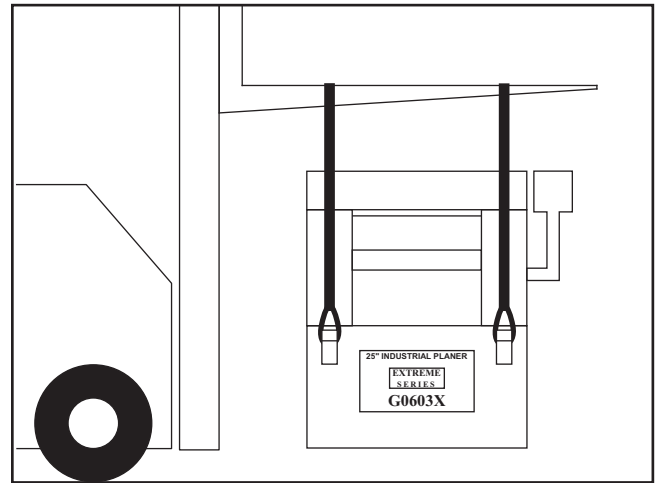

Figure 10. Location of lifting straps.
2. Place the lifting straps on the lifting hooks as illustrated in **Figure 10**. Make sure the straps are not in contact with any controls, wires, or handles.